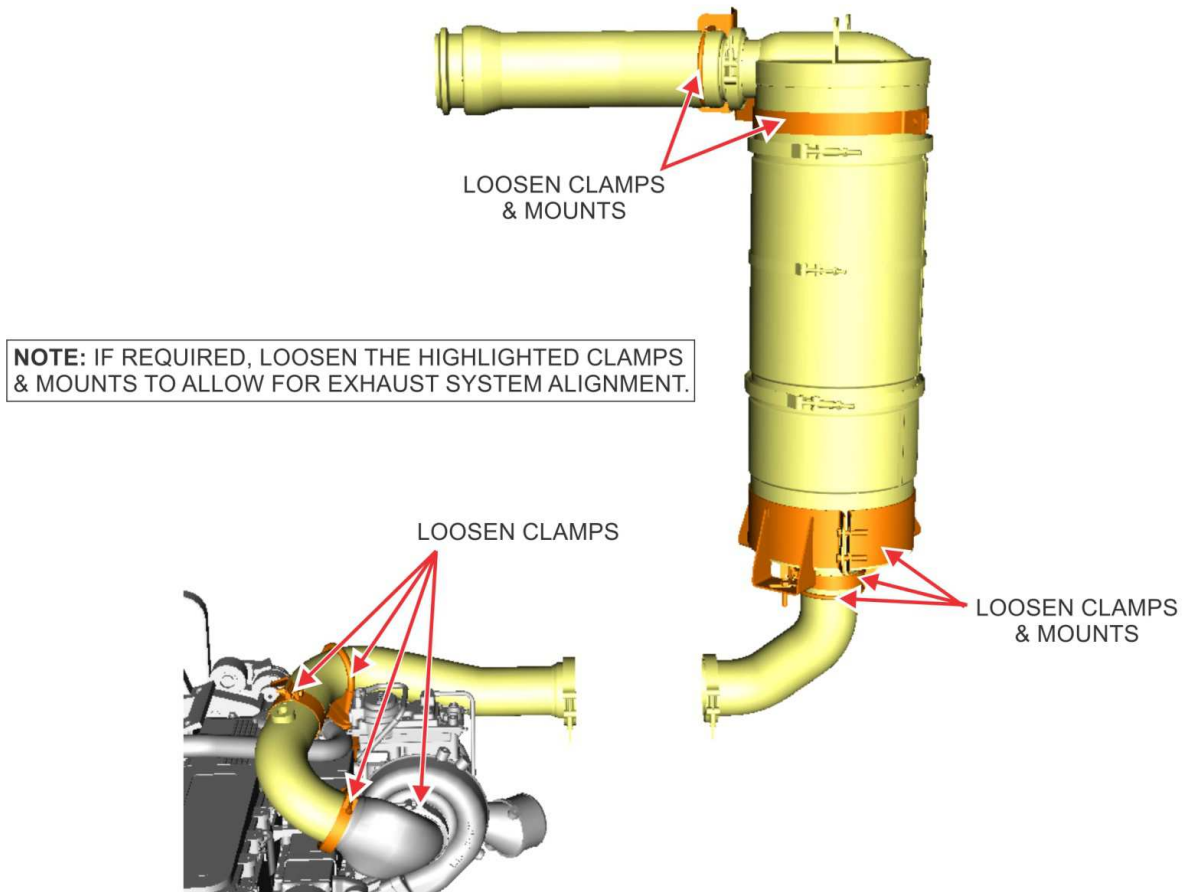

Figure 3: Exhaust Tube and Muffler Installation
- ☞ **NOTE:** Adjustment of muffler and/or exhaust tubes might be necessary to achieve proper alignment. If the tool does not align or does not fit between the exhaust tube ends, loosen the following: upper muffler clamp and 3 lower muffler base bolts, muffler elbow V-band clamp, turbo to flex connector tube band clamp, exhaust tube U-bolt and turbo elbow V-band clamp (See Figure 3). Install the tool to exhaust tubes. Adjust and tighten the clamps to achieve proper alignment.